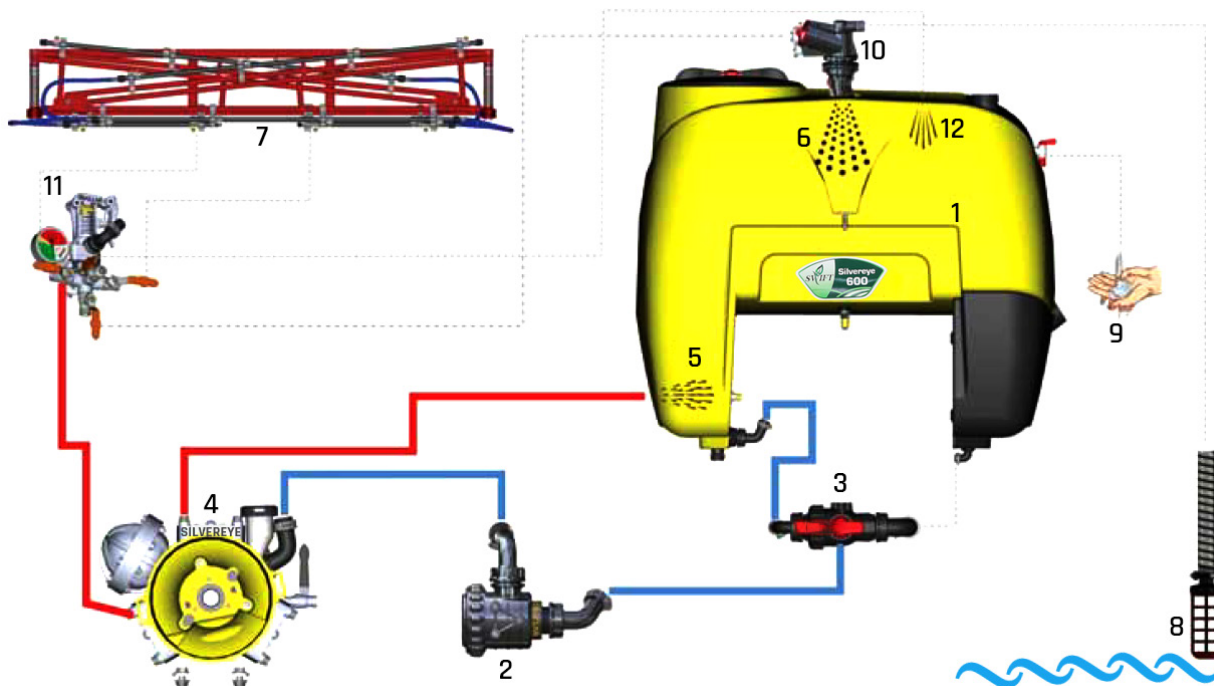

Figure 39
6. To adjust the speed of the hydraulic mixer change the pressure setting of your regulator. (Figure 39).